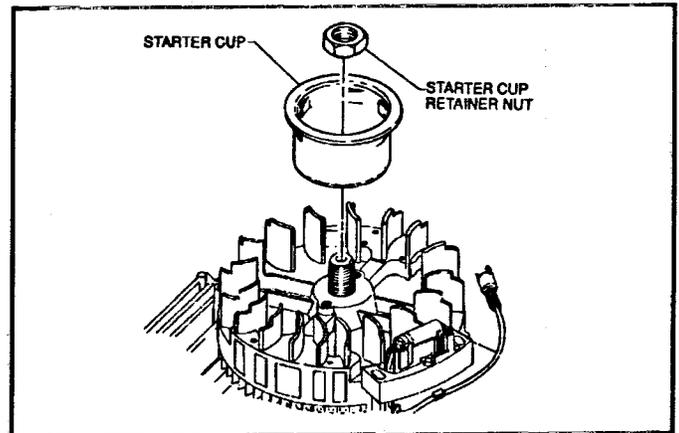

Figure 50
1. Remove the 15/16" hex nut retaining the flywheel starter cup. See Figure 50.